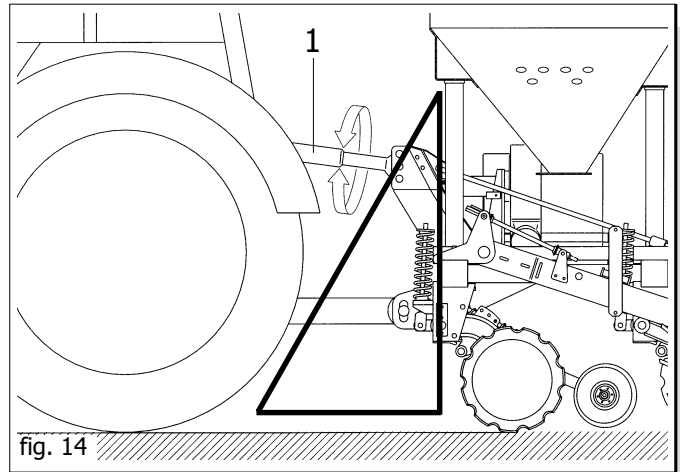

fig. 14
- the arm length of the third point for a carried machine (1, fig. 14);